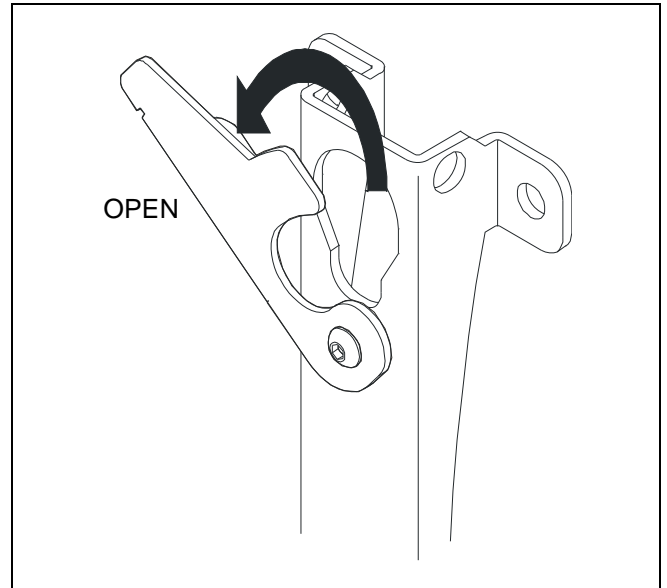

Figure 4:
3. Make sure locking flags are in the open position. (see Figure 4)